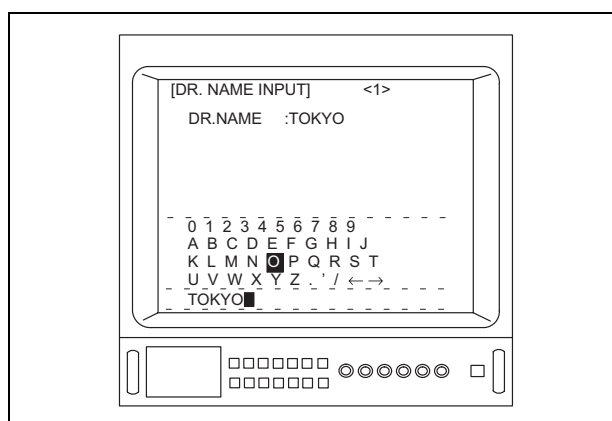

Figure 5.74
10. Repeat steps 8. and 9. to enter the user's name (for example, “TOKYO”) (see Figure 5.74).